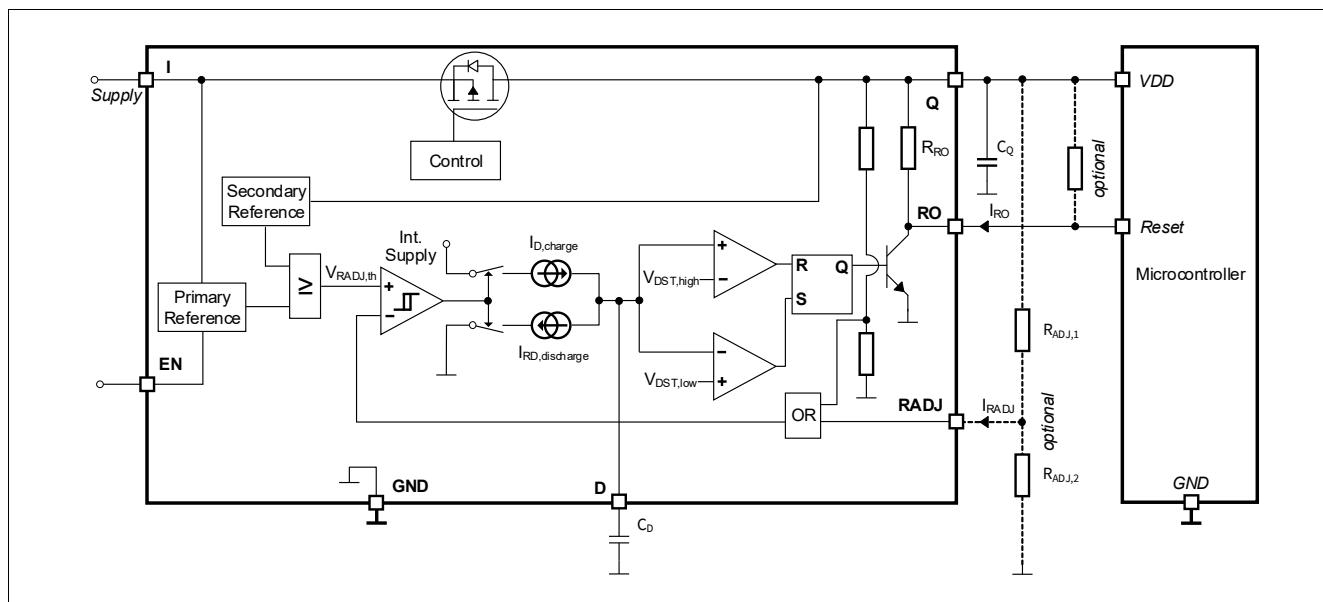

Figure 7 Functional block diagram reset
- $R_{ADJ,1}, R_{ADJ,2}$: Resistors of the external voltage divider, see **Figure 7**
$V_i = 13.5 \text{ V}$, $T_j = -40^\circ\text{C}$ to 150°C ; all voltages with respect to ground; direction of currents see **Figure 7** (unless otherwise specified).
$V_I = 13.5 \text{ V}$, $T_j = -40^\circ\text{C}$ to 150°C ; all voltages with respect to ground; direction of currents see Figure 7 (unless otherwise specified).
$V_i = 13.5 \text{ V}$, $T_j = -40^\circ\text{C}$ to 150°C ; all voltages with respect to ground; direction of currents see Figure 7 (unless otherwise specified).